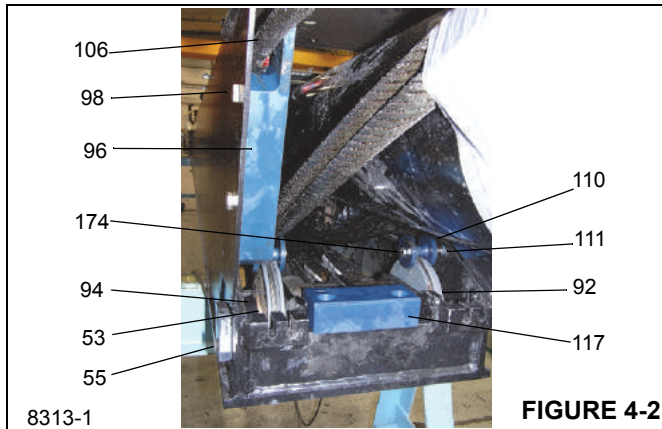

FIGURE 4-2
9. Slide Tele 3 (4) and Tele 4 (5) sections together until top rear wear pad mounting is accessible through the access opening on top of boom. Install wear pad (119) and wear pad plates (120) securing with capscrews (87). Install cam plate (130) securing with capscrews (87) and center the section by turning adjusting cam to adjust wear pads accordingly or as pads were originally removed and tagged. Refer to "Boom Calibration" on page 24.
10. Attach a sling to the tele cylinder (6) and raise and remove temporary block supporting tele cylinder at base of boom. Refer to Figure 4-2. Insert shaft (93) in base of Tele 3, spacer (94), thrust washer (53) and loop 4/3/2 retract cable (118) over single groove retract sheave (92) and install thrust washer (53). Align trunnion ends of tele cylinder 2/3/4 extend cables (139) and lightly tap shaft through trunnion ends, installing thrust washer (53), loop cable (118) over next single groove retract sheave (92), and install thrust washer (53) spacer (94). Install wear pads (55), shims (81) and capscrews (9) to retain ends of shaft assembly. Refer to "Boom Calibration" on page 24. Install grease fittings (105) in both ends of shaft (93) and lube. Apply multipurpose grease to exterior of all wear pads and all wear surfaces. See *Lubrication*, page 8-1.
11. Install cable retaining rollers (110) over retract sheaves (92) by inserting capscrews (174) into roller and adjusting locking nut (111) until the roller is centered with sheaves (92).
12. Attach wear pad (96) with retaining lip facing up and in toward cylinder. Inserting the mounting hardware (97, 23, 24, 98) in the upper hole first. Position 3/4/5 extend cable (106) inside cutout lip on the wear pad and swing wear pad up into position. Install hardware in lower mounting hole and tighten securely.
13. Install lower wear pad (43) and shims (44) with hardware (23, 24, 25) to bottom of base of Tele 3 (4) section as pads were originally removed and tagged. Refer to "Boom Calibration" on page 24. Apply multipurpose grease to all wear pads and all wear surfaces. See *Lubrication*, page 8-1.
14. Install cylinder supporting wear pad (117) with capscrew (19) and washers (16, 17) inside base of Tele 3 and reposition temporary support block.